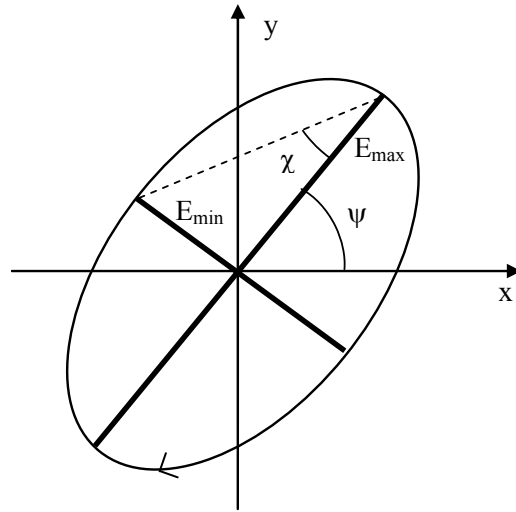

Figure 8 Right-handed Polarization Ellipse
The polarization ellipse is the elliptical trace made by the tip of the electric field vector of a light signal in the (XY) plane perpendicular to the light propagation direction z, where the x, y and z axes define a right-handed coordinate system. Generally, the ellipse is characterized by its orientation and elongation. A common parameterization uses the **azimuth angle** ψ (the angle between the semi-major axis of the ellipse and the x-axis) and the **ellipticity angle** $\chi = \pm \tan^{-1}(E_{\max} / E_{\min})$, where E_{\max} and E_{\min} are the lengths of the semi-major axis and the semi-minor axis, respectively. If the rotation of the electric field vector tip appears clockwise to an observer facing the incoming light, the light is right-hand polarized and its ellipticity angle is positive; otherwise, the light is left-hand polarized and its ellipticity angle is negative. The direction of rotation (R/L) of the polarization is usually indicated by an arrow at the bottom right or bottom left of the polarization ellipse (see Figure 8).